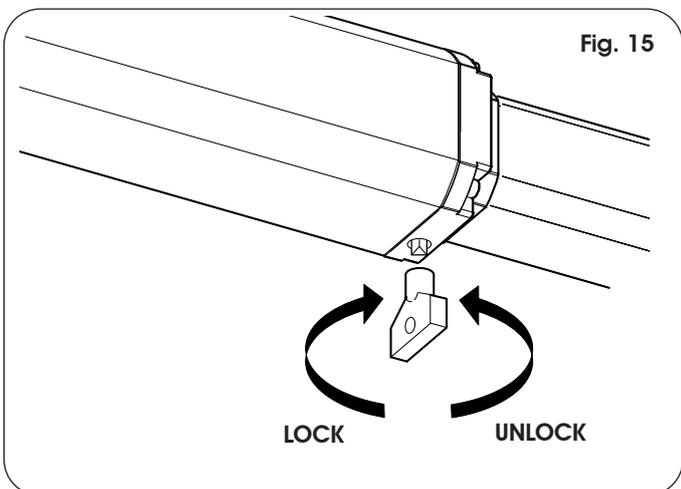

Fig. 15
- Insert the triangular key in the release screw located in the lower part of the flange (Fig.15).